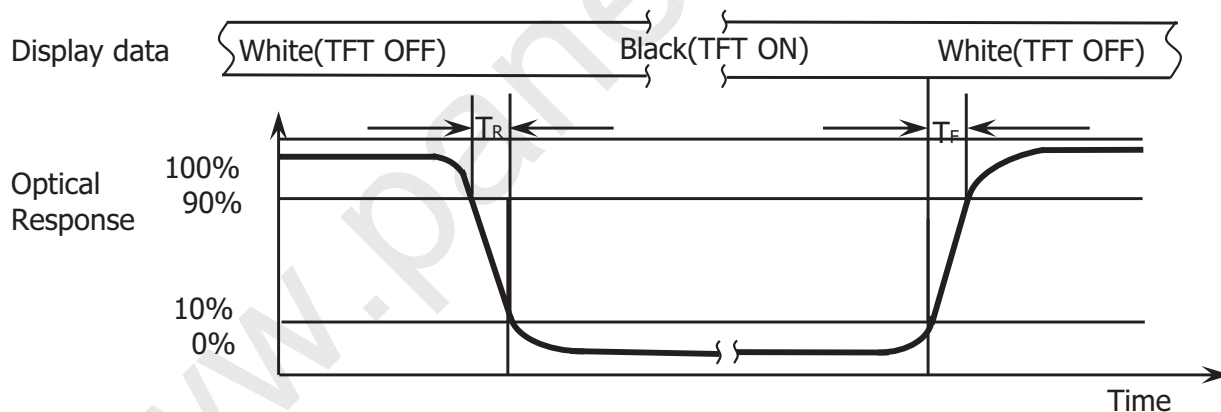

Figure 10. Response Time Testing
6. The electro-optical response time measurements shall be made as Figure 10 by switching the “data” input signal ON and OFF. The times needed for the luminance to change from 10% to 90% is  $T_f$ , and 90% to 10% is  $T_r$ .
The electro-optical response time measurements shall be made as shown in Figure 10 by switching the “data” input signal ON and OFF.  $T_r$ : The luminance to change from 10% to 90% ,  $T_f$ : The luminance to change from 90% to 10% .